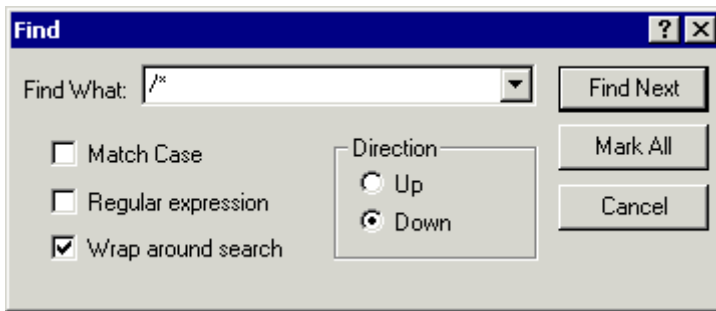

Figure 2-18. Find Dialog Box: Locating Occurrences of /*
2. From the **Edit** menu, choose **Find** to open the **Find** dialog box, shown in Figure 2-18.